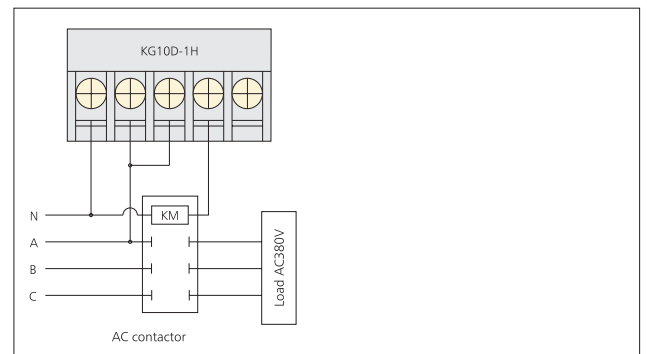

Figure 3 KG10D-1Z
- 3.2 KG10D-1Z is 1 ON/ 1 NC and see Figure 3 for wiring method;